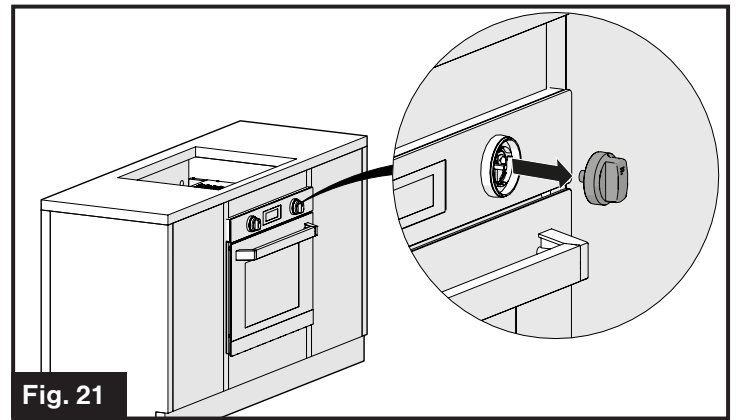

Fig. 21
1. Disconnect the oven from the power supply by means of the switch used to connect the appliance to the electrical mains or fuse. Grasp and pull out the control knob with the broken LED light. (Fig. 21)